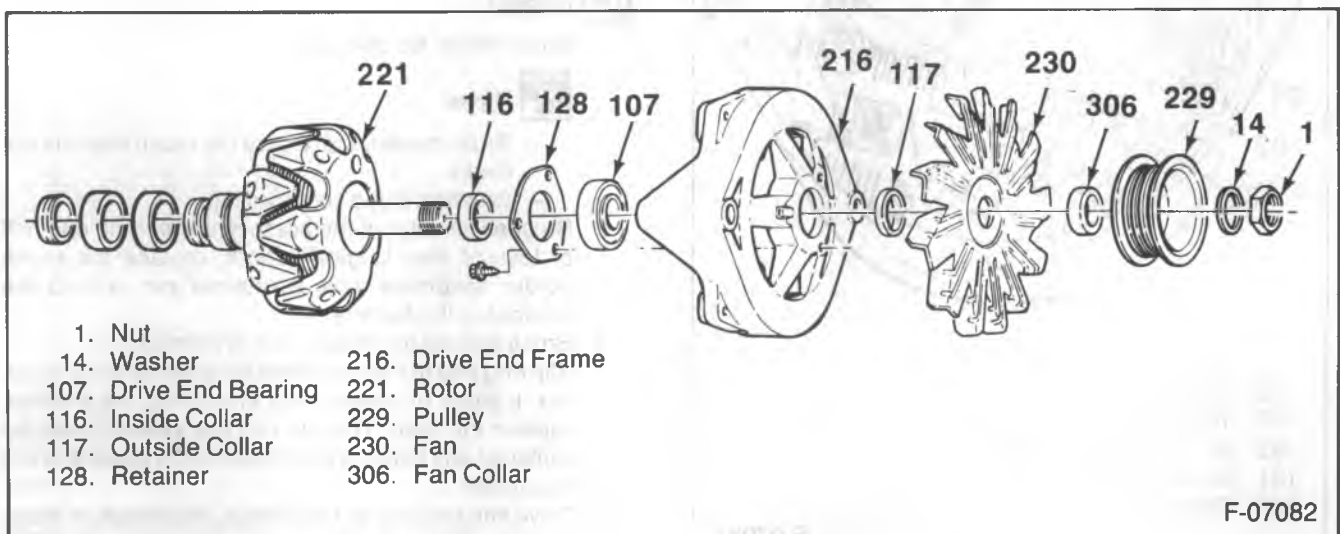

Figure 5—Drive End Frame Components
3. Pulley nut (1) and the washer from the shaft.
4. Pulley (229), collar (306), fan (230) and outside collar from the shaft.
5. End frame (216) and the inside collar (116) from the rotor shaft.
6. Three screws and the retainer (128) from the end frame (figure 5).